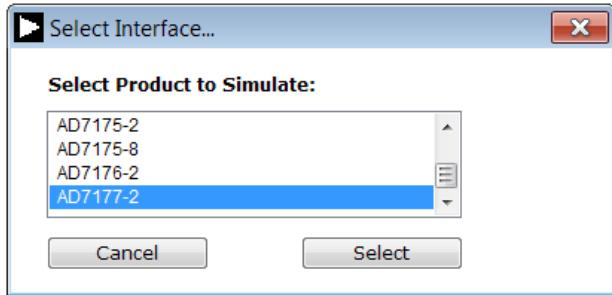

Figure 15. Evaluation Board Selection Simulation
- The AD717x Eval+ software can also be used without connecting hardware. Click the Simulation button and the options shown in Figure 15 appear. This option uses a software model and allows the AD7172-2, AD7172-4, AD7173-8, AD7175-2, AD7175-8, AD7176-2, or AD7177-2 to be evaluated.